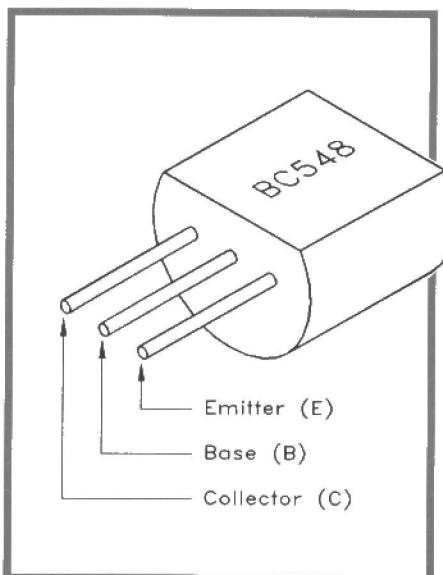

Figure 5. Transistor (TR1) connections.
d) TR1, the transistor, should now be fitted to the board. This has a small black plastic body with three lead-out wires. It will be marked with the type number, which in this case is 'BC548'. Other markings may also be present; you will have to get used to picking out the important markings on chips and transistors (and ignoring the others!). You must ensure that TR1 is fitted to the board correctly. Figure 5 shows which lead is which, making this task easy.